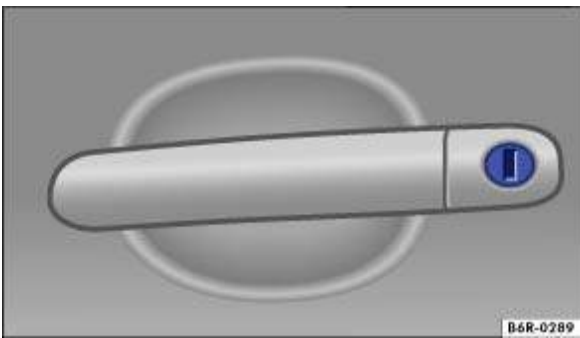

Fig. 183 Door handle on driver door with lock cylinder
- Insert the key bit into the lock cylinder → Fig. 183 and lock or unlock the vehicle.